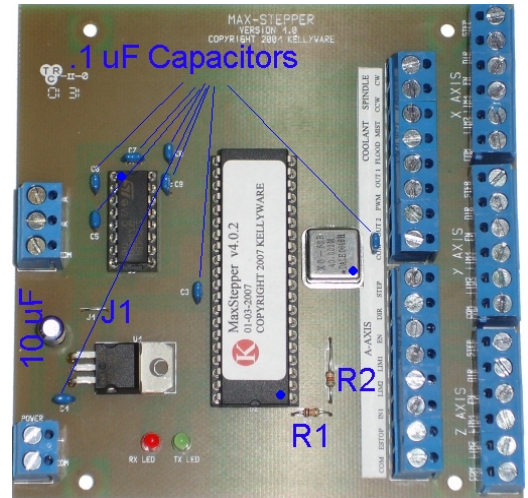

Figure 1
1. Insert R1 and R2. Solder and trim leads. Both R1 and R2 are 5.1Kohm resistors. See figure 1.
2. Insert J1. Solder and trim leads. J1 is made from the extra wire left when you trimmed R1 or R2. See figure 1.
5. Insert the .1uF capacitors (8). Solder and trim leads. See figure 1.
7. ***Insert the 10 uF capacitor. Solder and trim leads. The short lead is negative and should go into the hole with a square pad. See figure 1.
- 10.***Insert the 6 position terminal blocks (3). Solder. No trimming is necessary for these parts. Be sure to orient the terminal blocks so the wire openings face the closest edge of the PCB.
- 11.***Insert the 8 position terminal blocks (2). Solder. No trimming is necessary for these parts. Be sure to orient the terminal blocks so the wire openings face the **center** of the PCB.